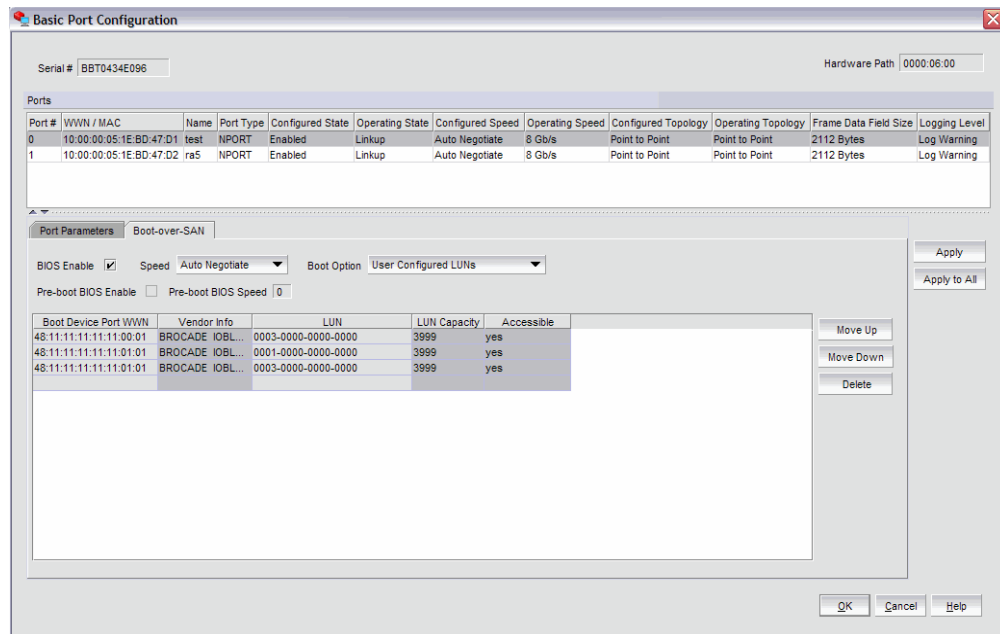

FIGURE 9 Boot-over-SAN dialog box
The **Boot-over-SAN** dialog box, shown in Figure 9, displays.
- The pre-boot configured LUNs in the LUN column are displayed as <LUN wwn> (Pre-boot), as shown in Figure 9. The maximum number of user-configured LUNs supported is four, and the maximum number of pre-boot-configured LUNs is eight.